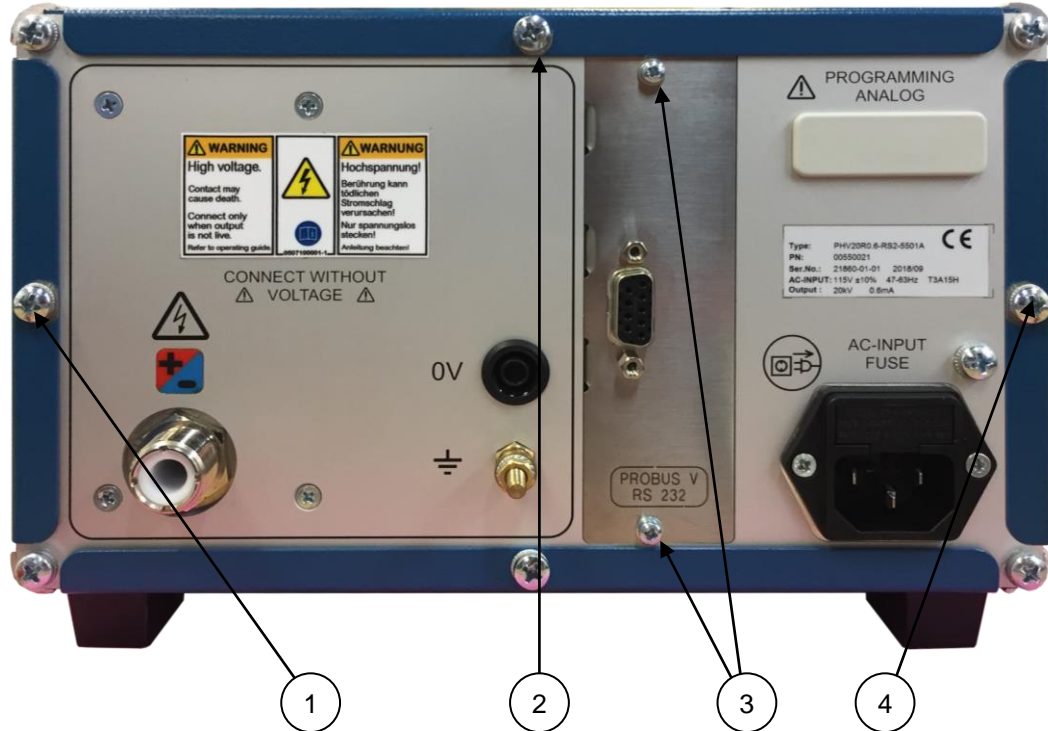

Figure 1. PHV Rear View.
Remove the screws from the top and side covers (see items 1, 2, and 4 in Figure 1). Slide the covers out of the chassis supports. Now the user should have access to the internal circuit boards.
Remove the screws mounting the digital interface board to the rear panel of the unit (item 3 in Figure 1), and withdraw the card from the chassis.
Locate the replacement interface converter board, and install in the slot in the rear of the unit. Replace the screws (item 3 in Figure 1).